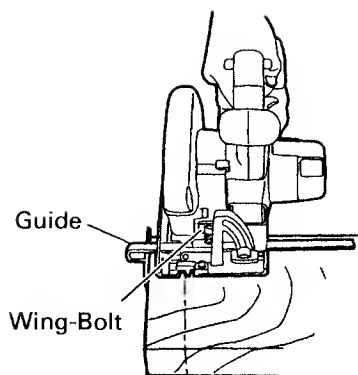

Fig. 11
4. Regulating the guide (Fig. 11)